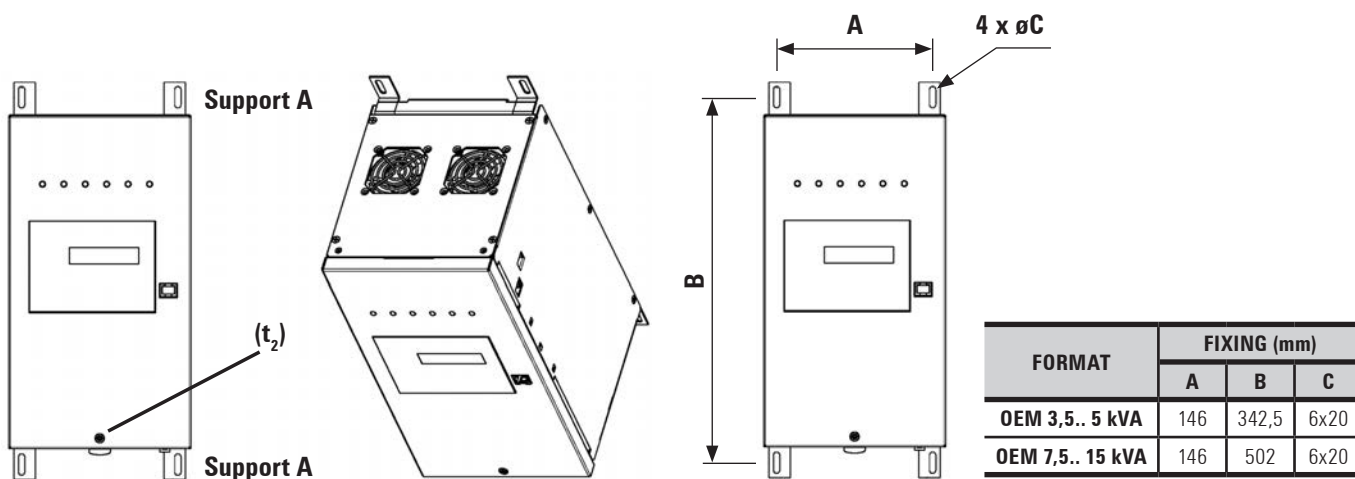

Fig. 14. Module fixing diagram for format (OEM).
- **(OEM)** module/s of **ILUEST+** have to be fixed in vertical position directly to wall by means of the provided supports, inside of a metallic or plastic (like polyester) enclosure. It is compulsory to make this mechanical operating before proceeding with the installation (see figures 14 and 15), because the equipment is designed to work in this position for a better cooling and higher efficiency.
Whatever the place is, all formats **is obligatory to be fixed to the wall, inside of the enclosure or floor with parts that guarantee a total and permanent strength** through its respec-tive supports or holes made in its base, see figures 14 to 16.